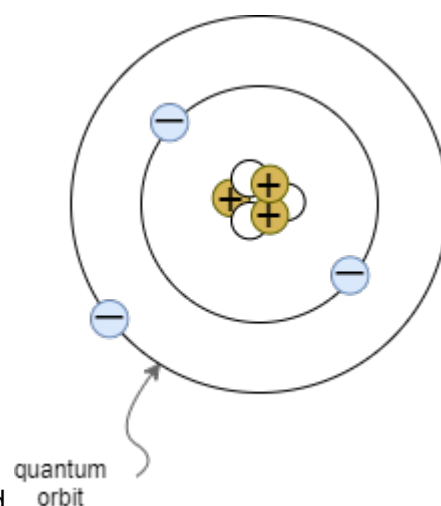

Fig. 1: Atomic model according to Bohr / Sommerfeld
- Explanation of the charge on the basis of the atomic models according to Bohr and Sommerfeld (see figure 1)